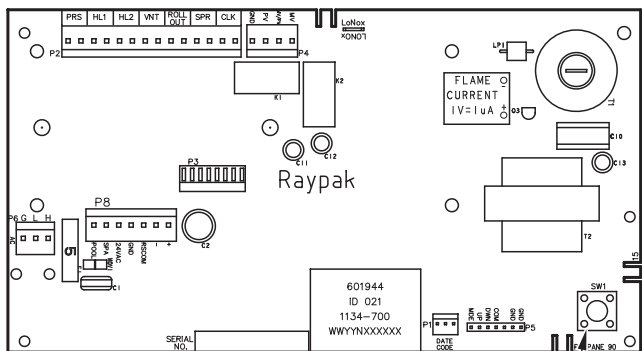

Figure 32. Thermostat Program Button (SW1)
1. Remove the four screws holding the control cover, and swing the panel down so the back side of the board is visible. Locate the Program Mode button (SW1). See **Figure 32**. Press and hold the button for 5-7 seconds until SET FACTORY DEFAULTS appears on the display. Release the program button.